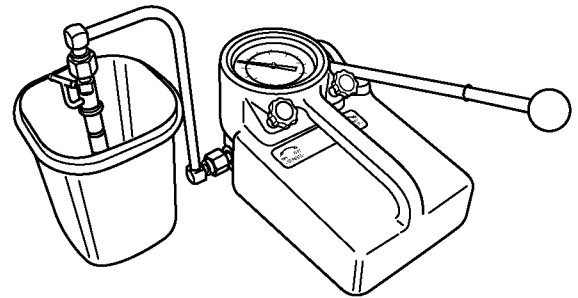

Figure 6-90
4. Pump the operating lever of the tester slowly, observing the pressure reading at the point where the fuel injector begins spraying fuel (Figure 6-90).